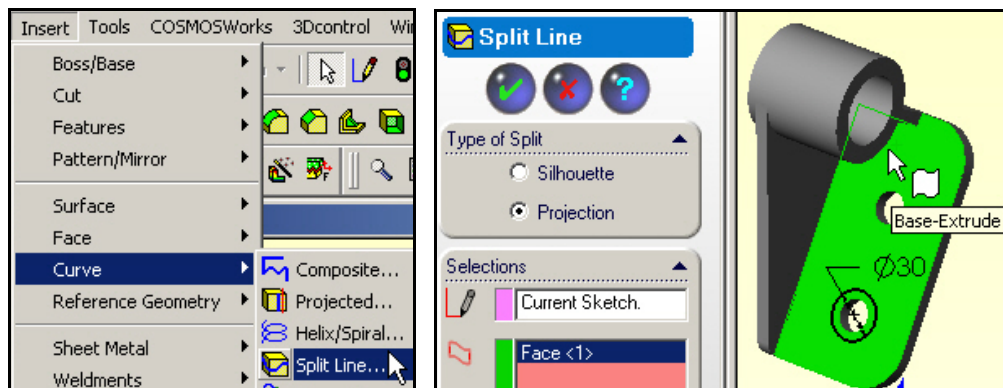

Figure 6 Selecting the first circular split line
- To split the surface go to the top menu bar and select **Insert** → **Curve** → **Split Line**. The **Type** will be a projection (Figure 6).